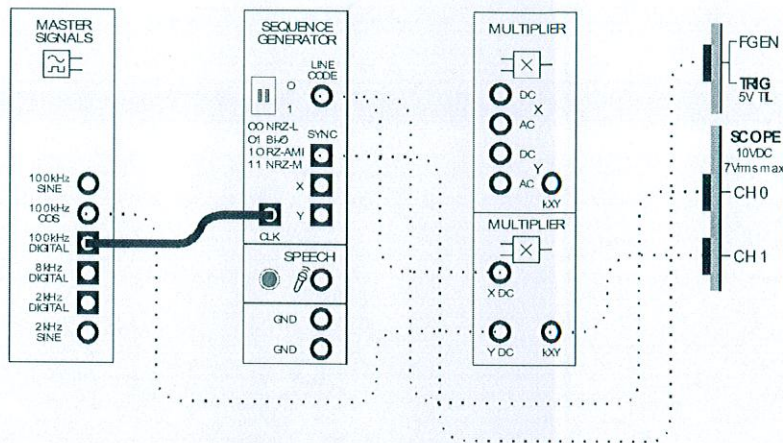

Figure 4
15. Modify the set-up as shown in Figure 4 below.